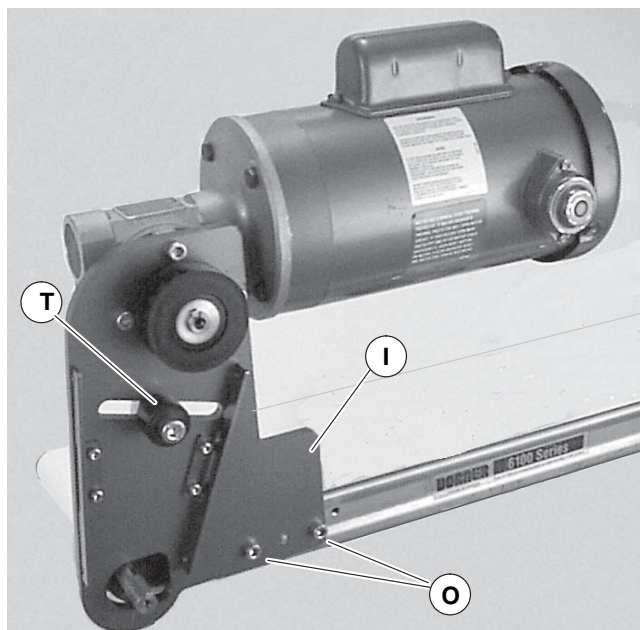

Figure 13
5. Attach mount assembly (Figure 13, item I) with screws (O). Tighten to 80 in-lb (9 N-m).
8. Remove cam bearing and spacer (Figure 13, item T). Place the cam bearing and spacer (Figure 13, item T) next to the driven pulley (M). Ensure the flanges of the driven pulley are aligned with the cam bearing. Tighten driven pulley set screws (U). This will allow for proper belt alignment while conveyor is in use. Replace cam bearing and spacer (T).